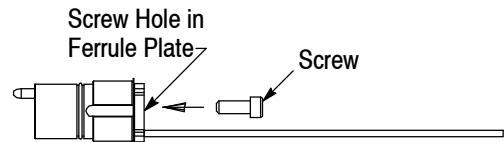

Figure 11
2. Align the end of the ferrule assembly with the appropriate channel cavity of the EB insert, and insert the ferrule assembly into the channel cavity until the O-ring is against the channel cavity. See Figure 11, Detail A. To avoid damage to the fiber, DO NOT push the fiber to install the ferrule assembly.
3. Slide the spring over the fiber until it is against the O-ring of the ferrule assembly. Using the ferrule insertion tool, push the spring until the ferrule assembly bottoms in the channel cavity (the spring will protrude slightly from the cavity). See Figure 11, Detail B.
4. Align the index pin hole of the ferrule plate with the index pin at the back of the EB insert, and slip the fiber into the closest slotted hole in the ferrule plate. See Figure 11, Detail C.
5. Hold the ferrule plate against the EB insert, making sure that the index pin enters the index hole. Thread the screw through the screw hole in the ferrule plate and into the hole in the EB insert. See Figure 11, Detail D. Using the 2-mm hex wrench, tighten the screw to a torque between 0.8 and 1 N-m. Check to make sure that the ferrule plate is flush with the EB insert.